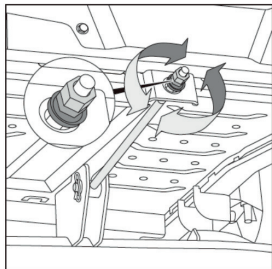

FIG.23
3. SE FOR NECESSÁRIO UM AJUSTE DA FRENTE PARA TRÁS, DEPOIS DE SOLTAR A CONTRAPORCA EXTERNA (A, FIG. 23), GIRE A PORCA DE AJUSTE INTERNA (B, FIG. 23) NO SENTIDO HORÁRIO PARA ELEVAR OU NO SENTIDO ANTI-HORÁRIO PARA ABAIXAR A FRENTE DA PLATAFORMA DE CORTE.